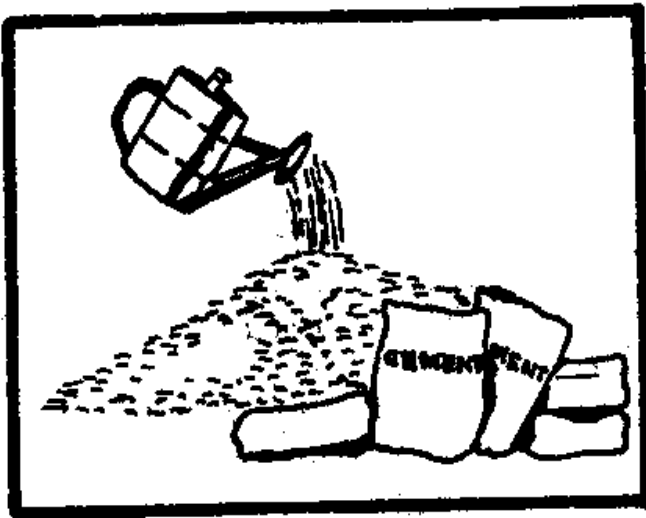

Fig. 6 - Moistening the Soil.
(1) Spread out the thoroughly mixed soil-cement mixture on the mixing board.
(2) Add water with a sprinkling can without making puddles (see Fig. 6).